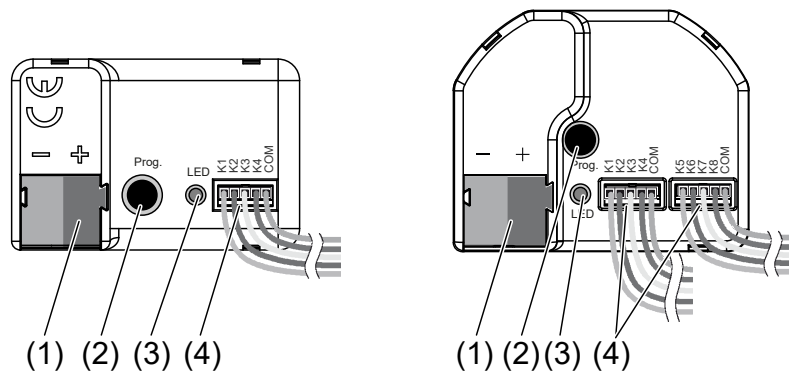

Figure 1: Device components
- Connect bus line with device connection terminal observing the correct polarity (red = +, black = -) (see figure 1).